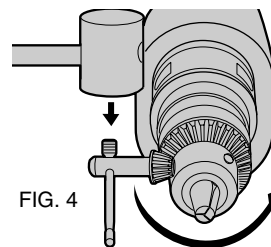

FIG. 4
7. Using a wooden mallet or similar object, strike key sharply in a counterclockwise direction (Fig. 4). This will loosen chuck so that it can be unscrewed by hand.